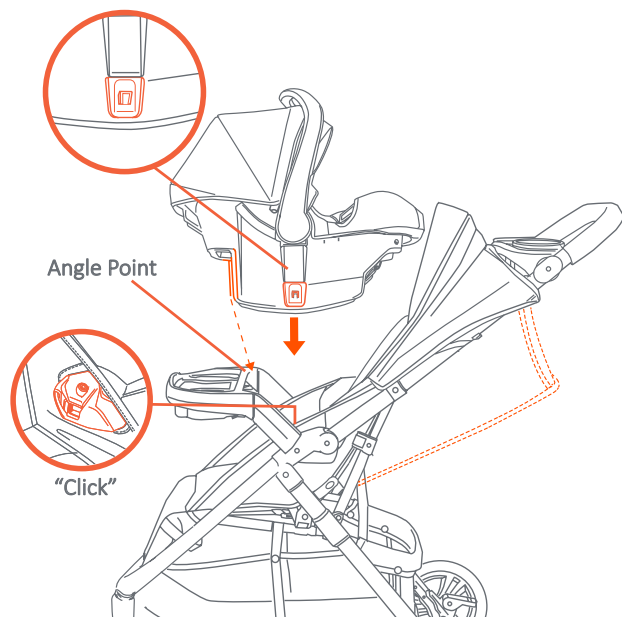

Fig. 14a
**ALWAYS** ensure that the car seat is properly connected and locked onto the stroller before each use by lifting up on the car seat handle (Fig.14a). **Always** use the short clip to secure the infant car seat to the stroller (Fig. 14b).